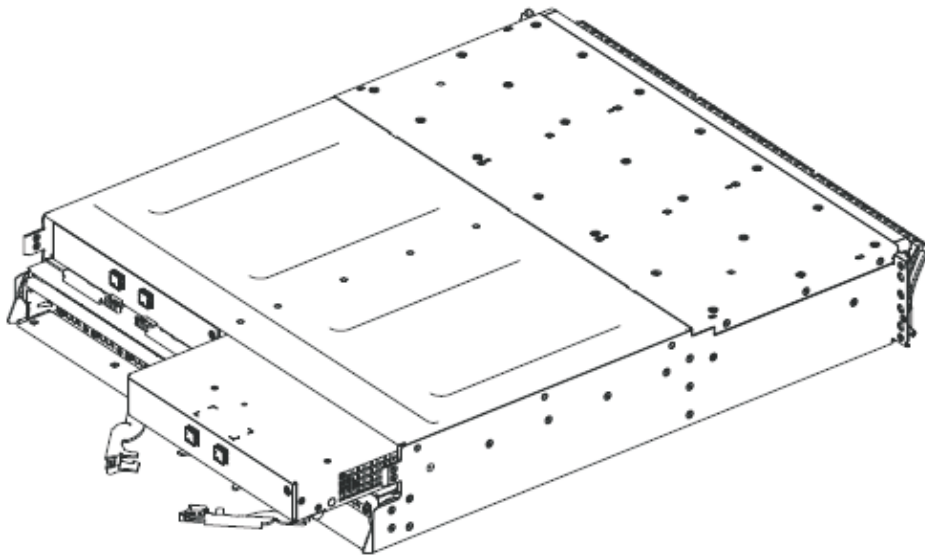

Figure 71. Removing and replacing the Storwize V7000 Gen2 expansion canister
6. Open the two release levers as shown in Figure 71 on page 279. The canister moves out of the slot approximately 0.6 cm (0.25 inch).